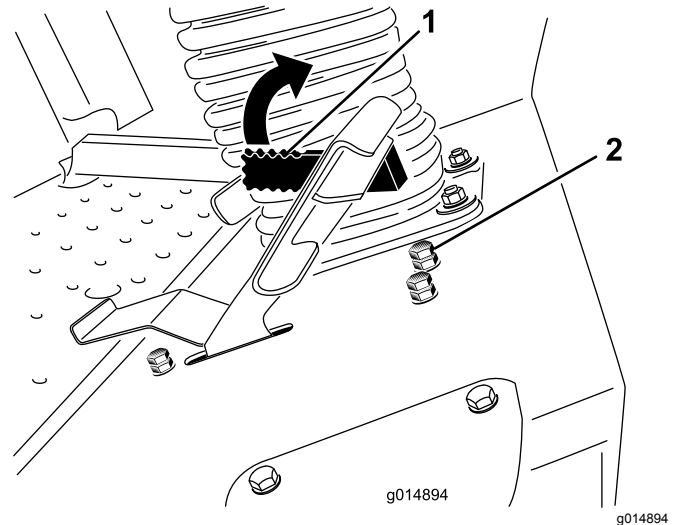

Figure 67
Flip the mow-speed limiter (Figure 67) forward to limit the traction speed of the machine.
3. Loosen the jam nut on the stop bolt of the mow-speed limiter (Figure 67).